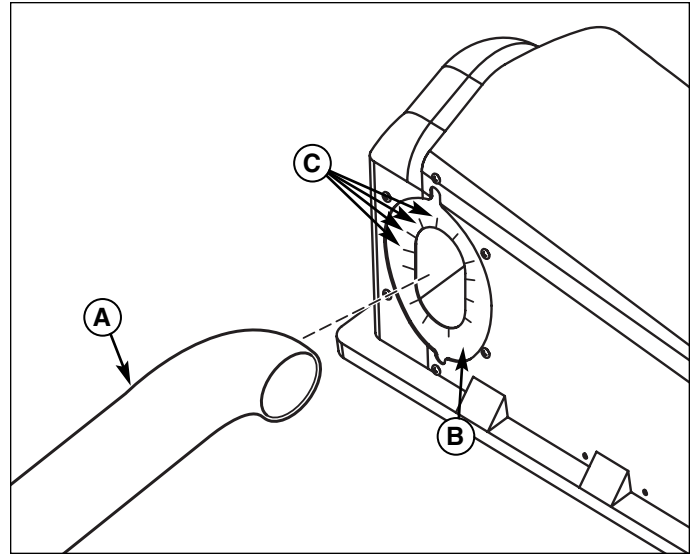

Figure 10. Install Tube in Cover
1. Slide discharge tube (A, Figure 10) into seal (B). It may be necessary to lengthen several slits (C) in order for tube (A) to fit into seal (B)